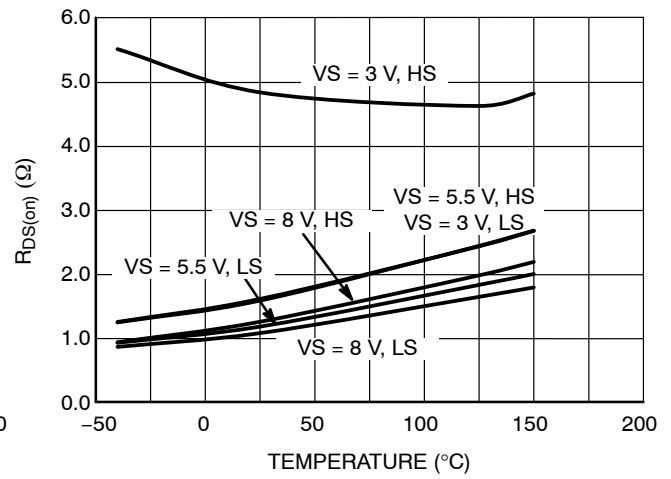

Figure 11.  $R_{DS(on)}$  vs. Temperature
- Refer to Figures 11 and 14 for  $R_{DS(on)}$  behavior.